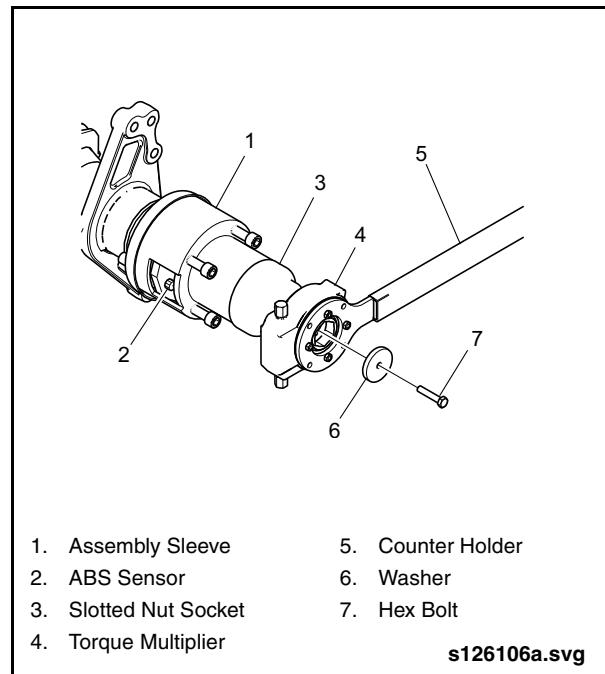

Fig. 2-147: Installing ABS Sensor Holder
3. Position Counter-Holder (Item 12 from special tools list) so that the head of the tool slips over the studs on the torque multiplier body and the base of the counter-holder is braced against the floor to counteract the rotational movement of the torque multiplier. See “Fig. 2-147: Installing ABS Sensor Holder” on page 128.